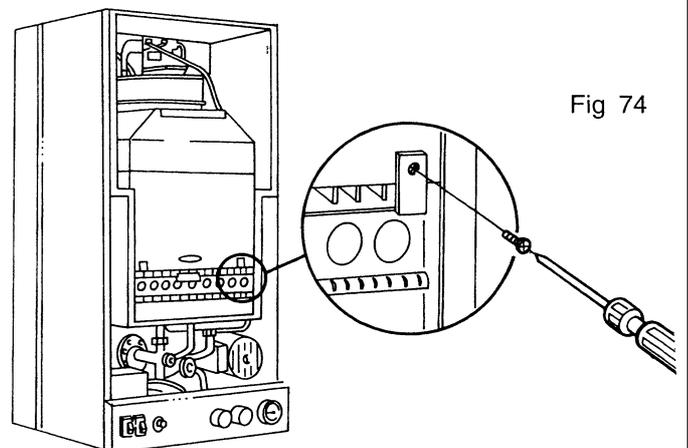

Fig 74
7.15.5 Remove the two screws securing the main burner to the combustion chamber (Fig 74).